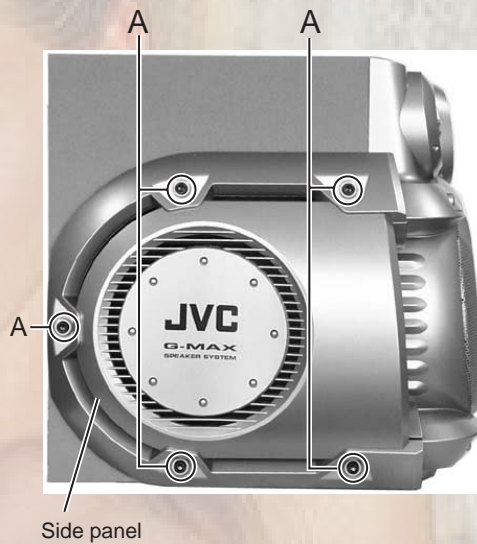

Fig.1
**■ Removing the side panel (See Fig. 1)**